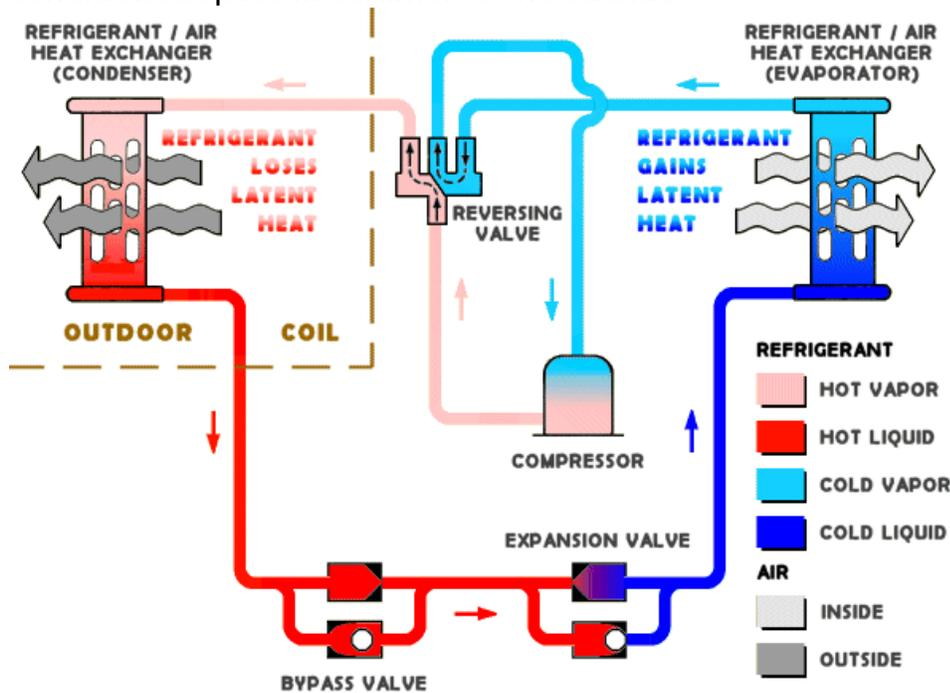

Figure 1 - cooling mode
- ✓ The air-to-air heat pump in Figure 1 shows the heat pump moving heat from inside the conditioned space in summer to the outside.